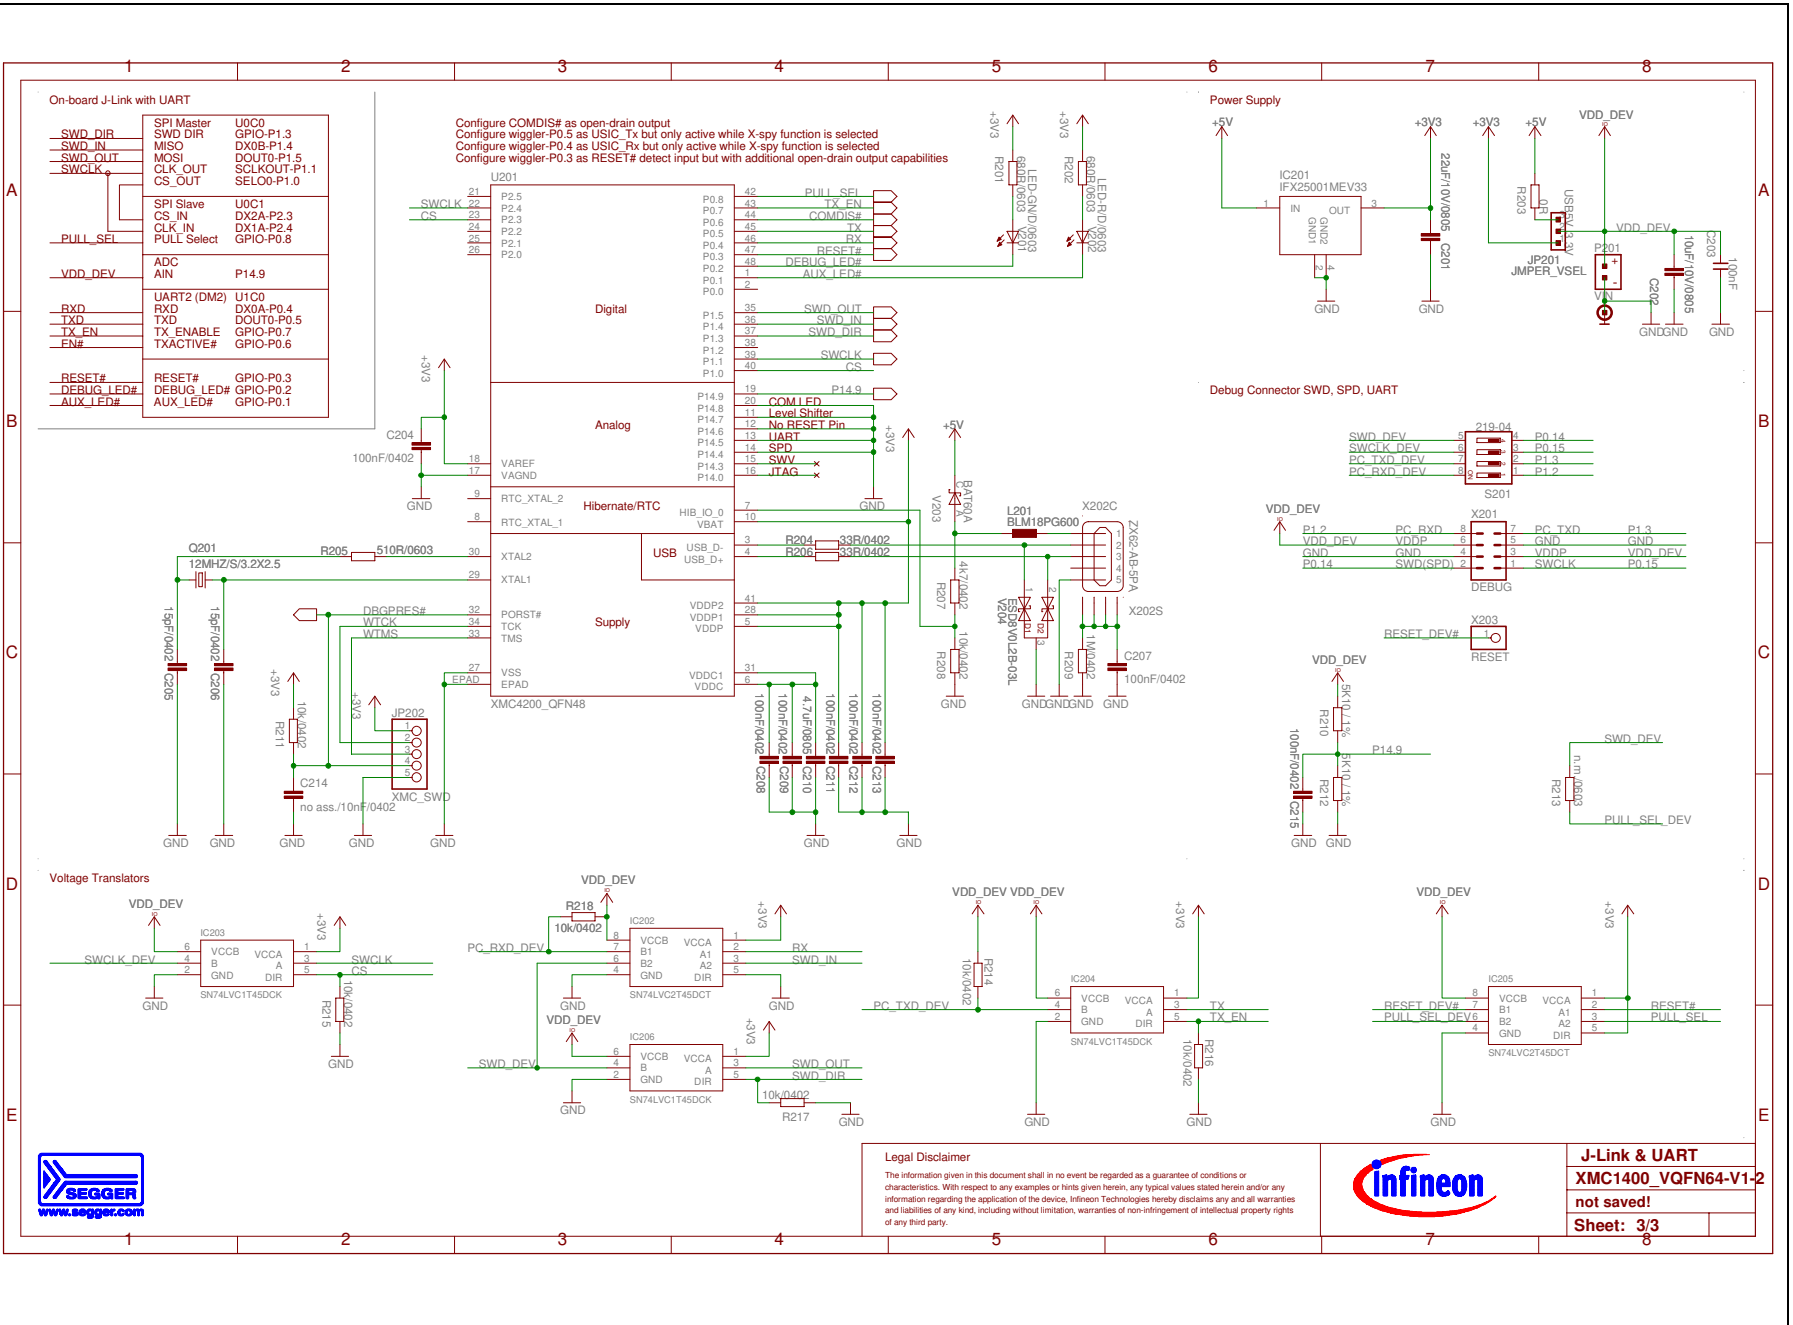

Figure 13 Schematic 2 of 2 XMCl400 Boot Kit
- Figure 13: On-board Debugger, Power Supply